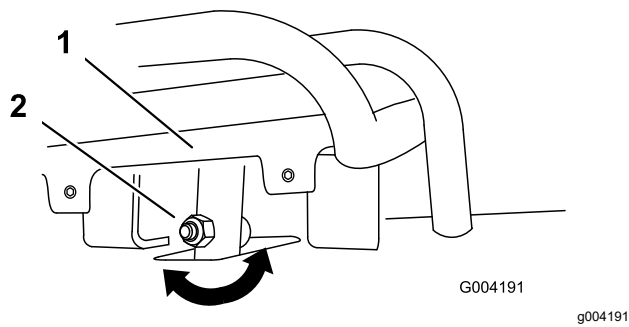
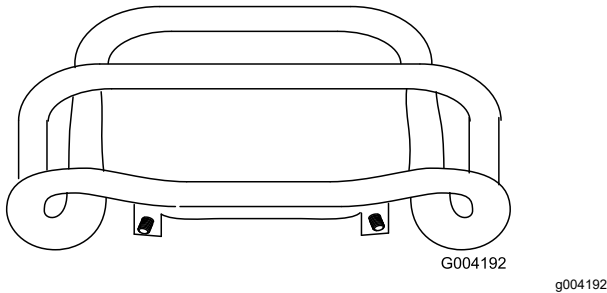

Figure 52
Figure 53
4. If the front of the traction control does not rest square and flush with the reference bar, loosen the nut and bolt in the stem of the traction control (Figure 52).
5. Adjust the traction control so that it rests flush against the reference bar when it is pulled straight back (Figure 52 and Figure 53).
- Loosen the flange nut and bolt in the stem of the traction control (Figure 52).
- Adjust the traction control so that it rests flush against the reference bar when it is pulled straight back (Figure 52 and Figure 53).